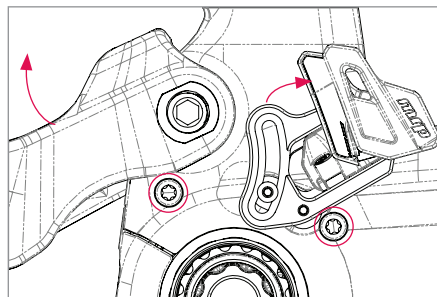

Figure 13
- b. Remove the front screw, and loosen the rear screw that fix the chainguide to the frame using a 3 mm hex key. Reposition the guide as shown and gently tighten the rear screw just enough to hold the chainguide in place. This will allow access to the middle DU mounting screw on the driveside of the bike (Fig. 13). Note the position of the chainguide backplate for proper alignment during re-install.